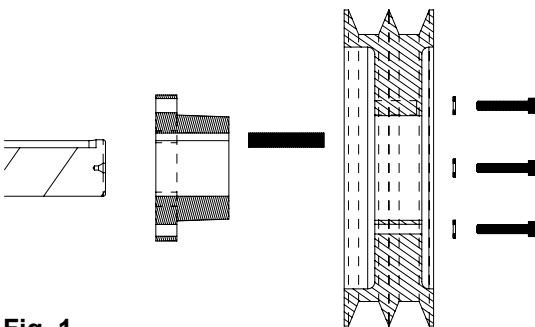

Fig. 1
- 2. See **Standard** mounting assembly - Figure 1.